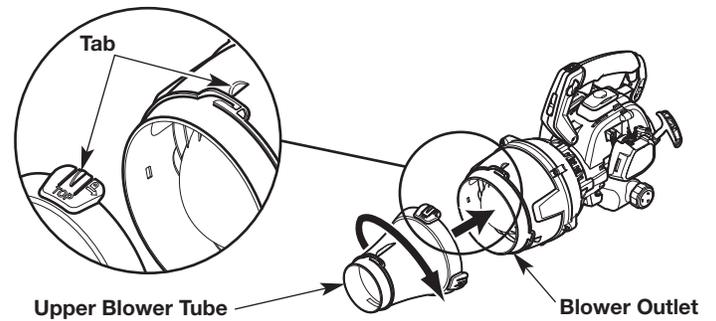

Fig. 3
4. Push the upper blower tube onto the blower outlet (Fig. 3).
5. While holding the handle firmly, turn the upper blower tube clockwise until it locks into place (Fig. 3). The tab on the upper blower tube should align with the tab on the blower outlet (Fig. 3).